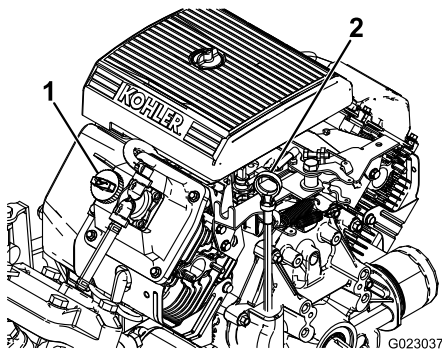

Figure 28
- Remove the dipstick and wipe it with a clean rag (Figure 28). Insert the dipstick into the tube and make sure it is seated fully. Remove the dipstick and check the oil level.
3. If the oil level is low, remove the filler cap from the valve cover (Figure 28) and pour oil into the opening until the oil level is up to the Full mark on the dipstick. Add the oil slowly and check the level often during this process. Do not overfill.
8. Slowly pour approximately 80% of the specified amount of oil into the oil filler tube (Figure 28).